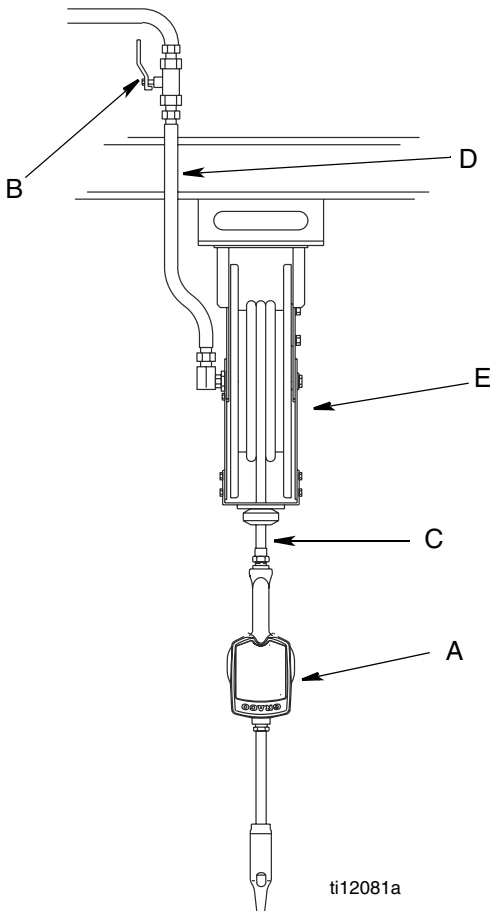

FIG. 1
FIG. 1 shows a typical hose reel installation. Dispense valves can also be installed on a console as shown in Fig. 2.
The typical installation shown in Fig. 1 is only a guide. It is not a complete system design. Contact your Graco distributor for assistance in designing a system to suit your needs.
3. Close the shut-off valve (B, FIG. 1, page 4).